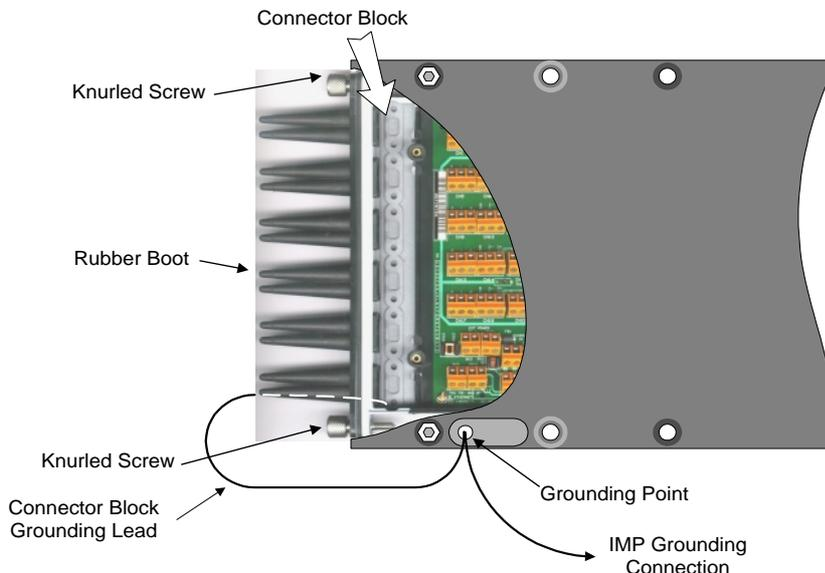

Figure 4.2 Location of IMP grounding point.
Figure 4.2 Location of IMP grounding point.	4-6
14. Fit the 'receptacle faston' to the end of the ground lead protruding from the connector block. Then connect the receptacle to the grounding point on the IMP case. (See Figure 4.2.)